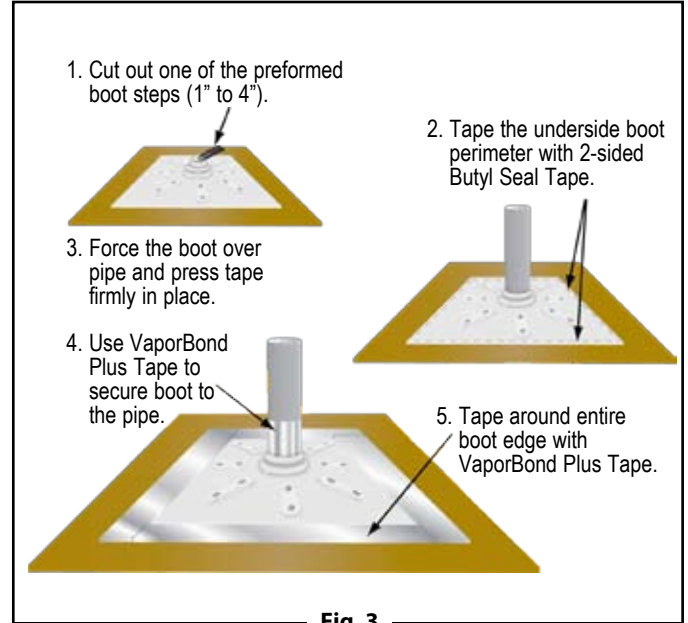

Fig. 3
- 1.4. Seal around all plumbing, conduit, support columns or other penetrations that come through the **VaporBlock Plus** membrane. Pipes four inches or smaller can be sealed with Raven VaporBoot Plus preformed pipe boots. VaporBoot Plus preformed pipe boots are formed in steps for 1", 2", 3" and 4" PVC pipe or IPS size and are sold in units of 12 per box (Fig. 3 & 5).